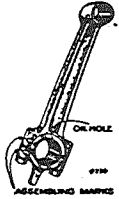

Fig. 13.
66. The connecting rod is also made of special aluminum alloy which combines strength with light weight. The lower bearing is of conventional type used with splash lubrication, and should it become loose, can be refitted. When assembling connecting rod to crankshaft, the oil hole as shown in Figure 13 must be toward the magneto. When replacing the cap the assembling marks must be on the same side as shown in figure 13.